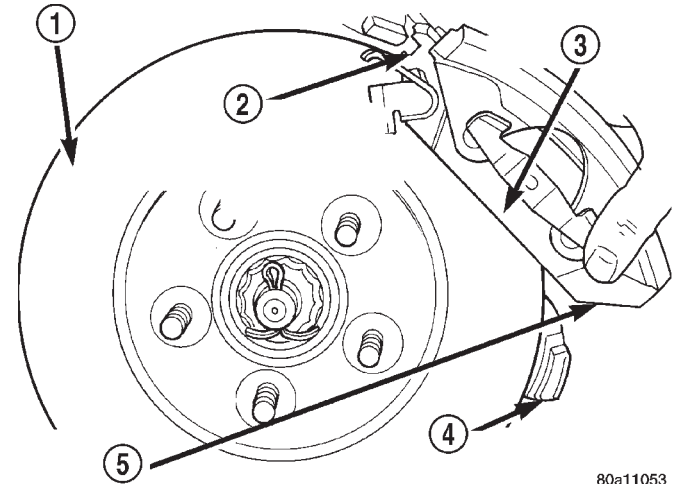

Fig. 26 Installing Brake Caliper
(8) Install braking disc back on hub and bearing assembly.
(9) Install disc brake caliper assembly on steering knuckle. Caliper is installed by first sliding top of caliper under top abutment on steering knuckle. Then installing bottom of caliper against bottom abutment of steering knuckle (Fig. 26).